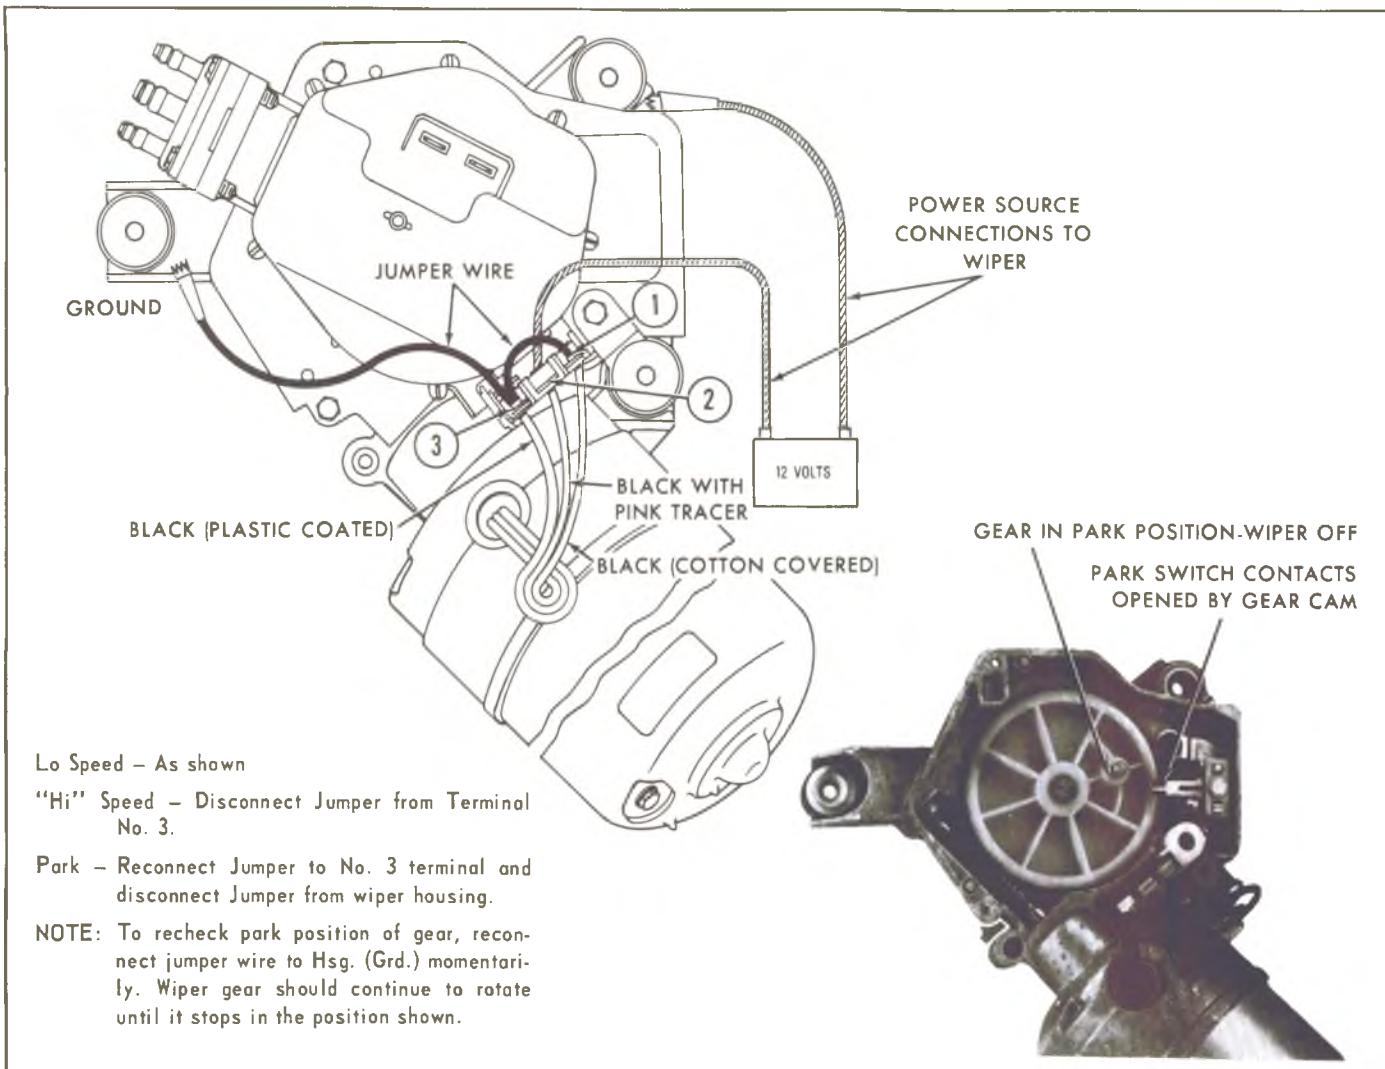

Fig. 36-Wiper Motor Diagnosis Diagram
5. With ignition switch "ON", there should be 12 volts at center terminal (No. 2) of wiper connector body. Refer to Figure 36 for #2 terminal location.
- B. To determine if wiper is cause of trouble, disconnect existing harness from wiper and connect jumper leads to wiper terminals as shown in Figure 36. Try operating wiper in LO and HI speeds. Also check if wiper will shut off properly (blades in park position).
Jumper wires to wiper as shown in Figure 36. Observe current draw, determine type of trouble that exists and refer to the TROUBLE CHART - WIPER DETACHED.